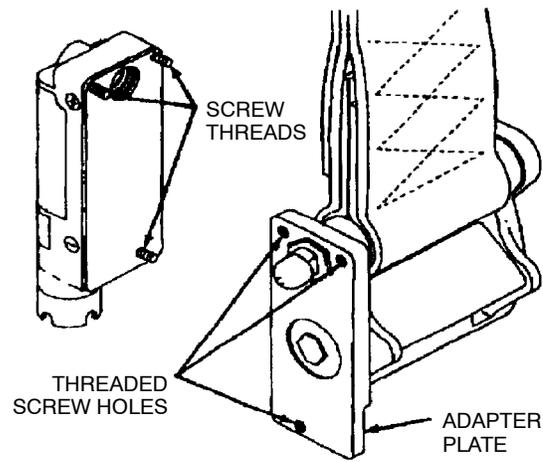

Figure 37. Apply Primer to Threads of Screws
d. Verify correctness of all markings. (QA)
e. Verify proper information on Parachute Record (OPNAV 4790/101). (QA)
f. Clean EPA screws and threaded screw holes of adapter plate thoroughly using alcohol and cotton swab. Allow to dry 3 to 5 min (Figure 37).